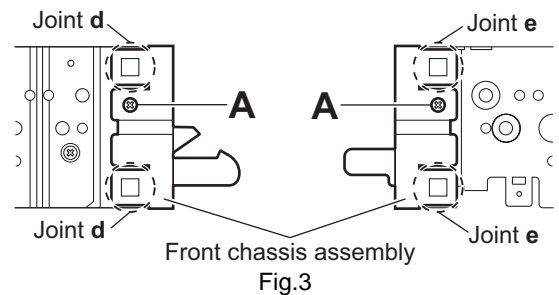

Fig.3
3.1.3 Removing the front chassis assembly (See Figs.3 and 4)
- (1) From the both sides of the main body, remove the two screws **A** attaching the front chassis assembly. (See Fig.3.)
- (3) Release the two joints **d** and two joints **e** from the both sides of the main body, then remove the front chassis assembly toward the front. (See Fig.3.)
3.2.2 Removing the connector board (See Figs.3 to 5)